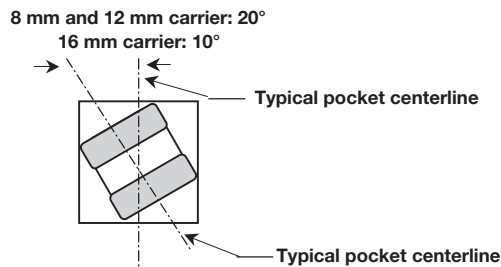

Figure 5
- Lateral movement of the component is restricted to 0.5 mm maximum for 8 mm and 12 mm wide tape and to 1.0 mm maximum for 16 mm wide tape figure 5.